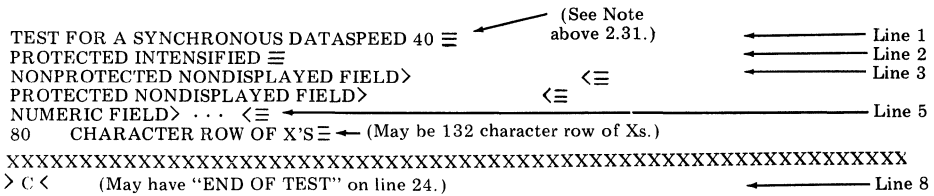

Fig. 7--SYNC 40 Test Message
2.20 Check for correctness of display and station options (Fig. 7):
Line 1 is copied as shown (Fig. 7).
Lines 3 through 8 are as shown in Fig. 7; the cursor must be positioned over “C” on line 8. Automatic “upshift” (to numeric) occurs on line 5 for 40K105 opcon only.